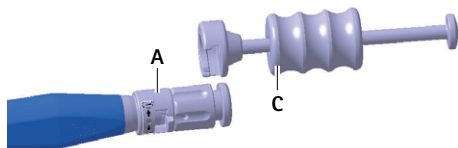

Fig. 5 Mounting the impact cylinder onto the insertion instrument
- Mount the impact cylinder **C** onto the insertion instrument **A**, see Fig. 5.
- ▶ Mount the impact cylinder **B** onto the insertion instrument **A**, see Fig. 5.